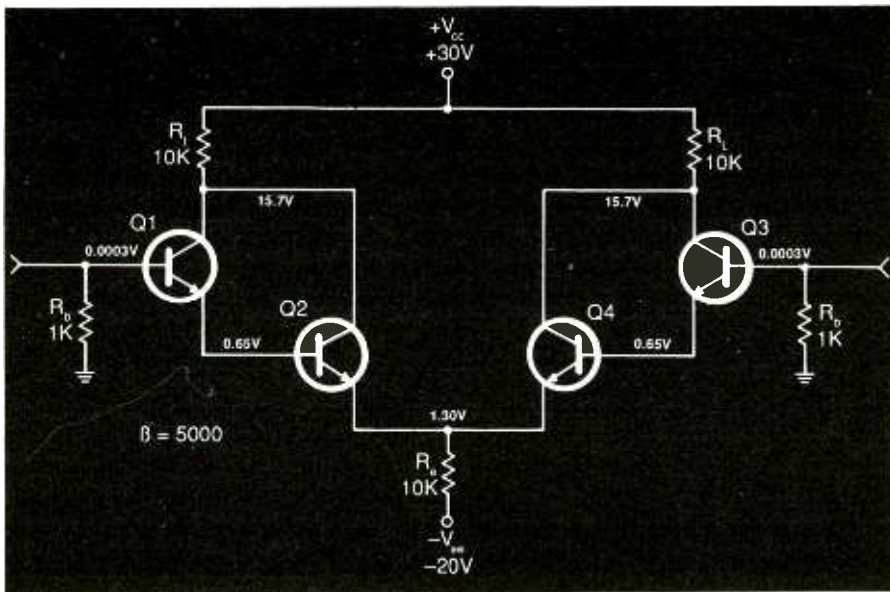
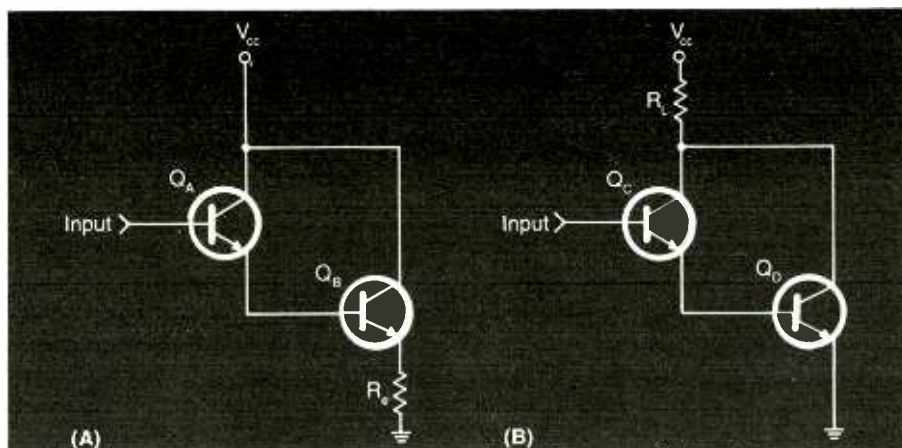

Fig. 3. Basic Darlington amplifier circuit configuration.
Fig. 4. Basic Darlington circuits: (A) emitter-follower and (B) compound amplifier.
urations. A basic differential Darlington common-emitter amplifier circuit arrangement is depicted in Fig. 3. This circuit employs two Darlington pairs—one consisting of transistors Q1 and Q2, the other consisting of transistors Q3 and Q4. Here, Q1 operates as a typical common-emitter stage, with Q2 its active load and resistor R_{L1} its passive load. Similarly, Q3 functions as a simple common-emitter stage with Q4 and R_{L1} acting as its active and passive loads.
It is helpful in troubleshooting electronic circuits to sectionalize the Fig. 3 circuitry to more easily follow circuit action. Thus, in Fig. 4, you are concerned with two basic Darlington circuits contained in the differential circuit configuration.
Note also with regard to Fig. 4 that there are two barrier-potential drops present in the Darlington emitter-follower. The base-emitter potential of Q_A will be approximately 0.65 volt. In turn, the total barrier-potential drop in this branch is approximately 1.3 volts. This is a very practical point to consider. For example, if you measure 0.65 volt from base to emitter for Q_A but only 0.1 volt from base to emitter for Q_B , you would immediately conclude that Q_B has serious base-emitter leakage, and means this transistor must be replaced.
Next, consider the common-emitter amplifier arrangement shown schematically in Fig. 4(B). This is the circuit for the Darlington compound pair in a common-emitter configuration, or a compound amplifier circuit. Here you should note that the chief difference between Fig. 4(B) and a single-transistor arrangement is that the former has a much higher dc beta value. For this reason, a Darlington pair is also commonly referred to as a "beta multiplier."
Due to the greatly increased beta value, the voltage gain of the Fig. 4(B) Darlington stage is much greater than if a single transistor had been used. It is worthwhile at this juncture to repeat an important point: there are two barrier-potential voltage drops in a compound amplifier circuit, and the total barrier-potential drop in the branch is normally approximately 1.3 volts.
Figure 5 shows the two sections depicted in Fig. 4 combined. Resistor R_b is included in Fig. 5 to complete the bias circuit. This arrangement is half of the complete Darlington differential amplifier circuit configuration shown in Fig. 3. This breakdown facilitates analysis of off-value dc-voltage distribution patterns.
Note in Fig. 3 that the base voltages for Q_1 and Q_3 are normally the same and are much lower than for a differential amplifier made up of single transistors. The base potential for the single-transistor version was approximately 10 millivolts. The Darlington pair operates at a base potential of only 0.3 millivolt, thanks to its inherent beta-multiplication action. The emitter potential for the single-transistor arrangement was 0.67 volt, whereas the emitter potential for the Darlington arrangement is 1.3 volts. This difference is due mainly to the fact that there are two base-emitter barrier-potential drops in the Darlington circuit.